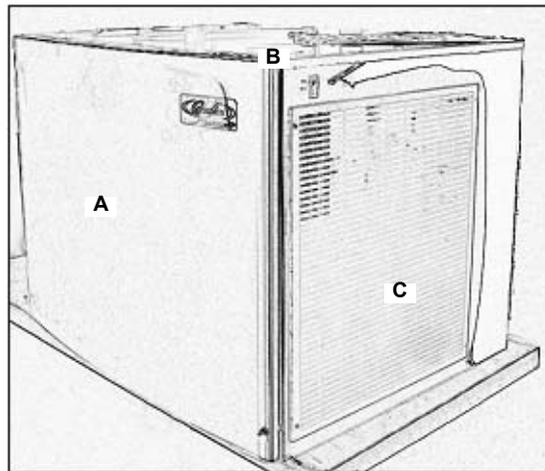

Figure 7.
3. Remove the front panel cover (A), top cover (B), and louvered side panel (C) (Figure 7).